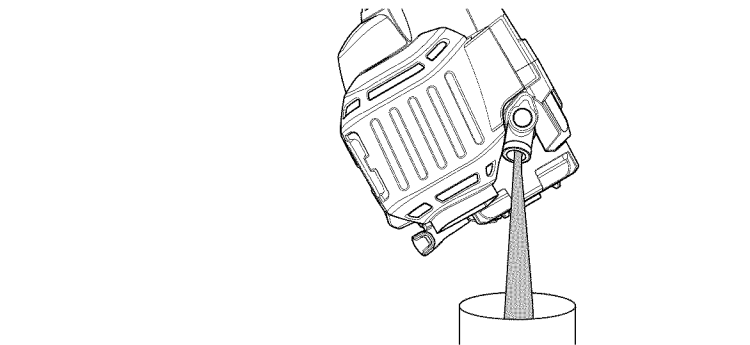

Fig. 21
3. Tip the unit vertically to pour the oil out of the oil fill hole and into a container (Fig. 21). Allow ample time for complete drainage.